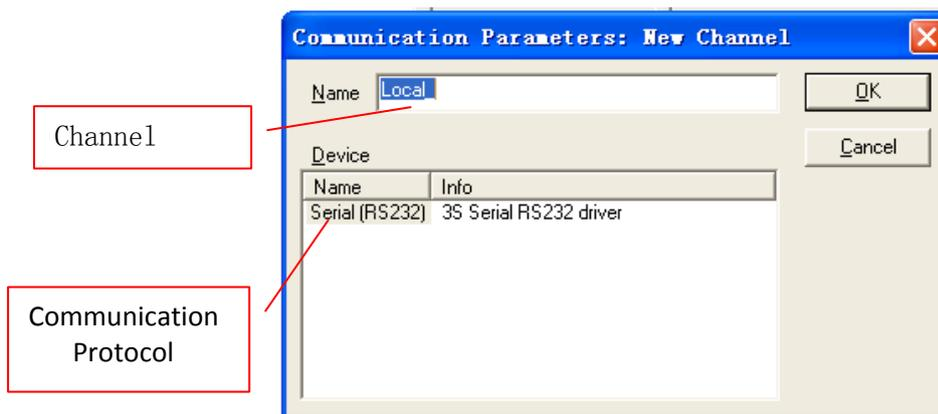

Figure 3-5-2 New Channel
- Select "New" to add a new channel and a dialog will appear as shown in figure 3-5-2.